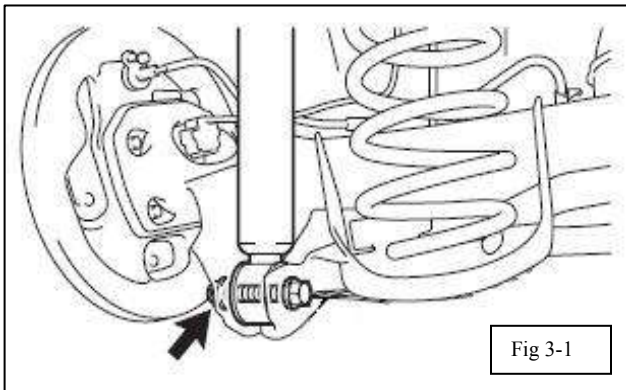

Fig 3-1
3. Remove rear shock absorber nuts. (Fig 3-1)